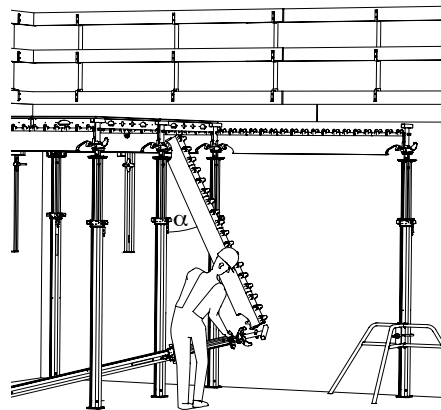

Fig. A4.12
1. Attach Main Beam SLT 225 (2) to the Drophead.
2. Connect prop with Drophead in the main beam. (Fig. A4.12)